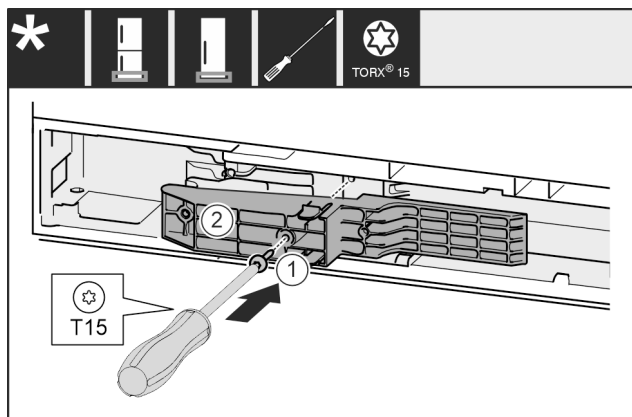

Fig. 67 *
- Insert adapter Fig. 67 (1) in the recess on the handle side.*
- Tighten screw Fig. 67 (2) with screwdriver.*